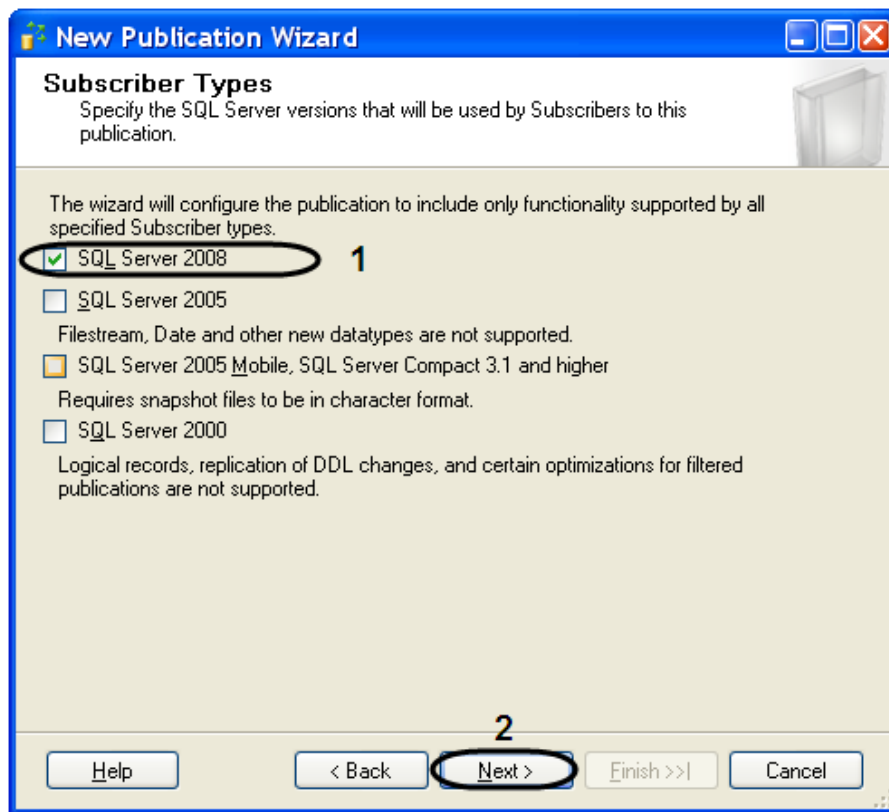

Fig. 9.3—6 Subscriber type selection
- 10.7. State the database objects to be included into publication, setting the «Tables» checkbox (Fig. 9.3—7, 1).